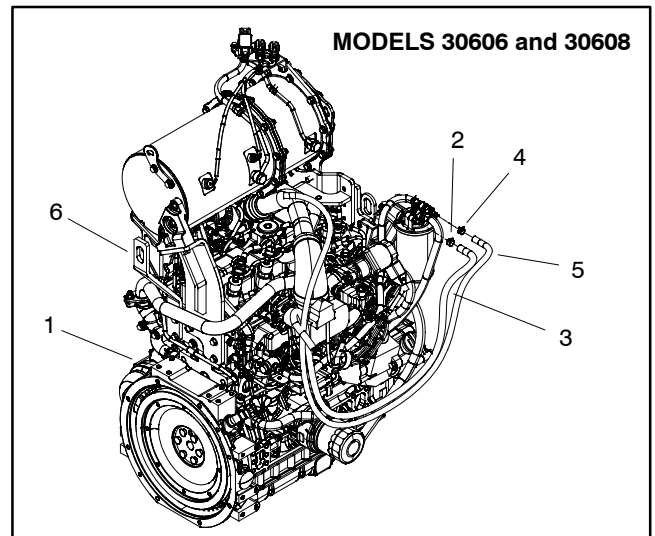

Figure 17
9. Disconnect fuel supply and return hoses from engine (Fig. 17 or 18). Position fuel hoses away from engine.
B. Install lift bracket to front of engine cylinder head (item 6 in Fig. 17). Front lift bracket was included with new machine or is available as a service part (refer to parts catalog for part number).
A. Remove lift bracket from front of engine cylinder head (item 6 in Fig. 17). The bracket must be removed before fuel tank installation. Retain lift bracket and fasteners for future use.
9. Connect fuel supply and return hoses to the engine fittings (Fig. 17 or 18).